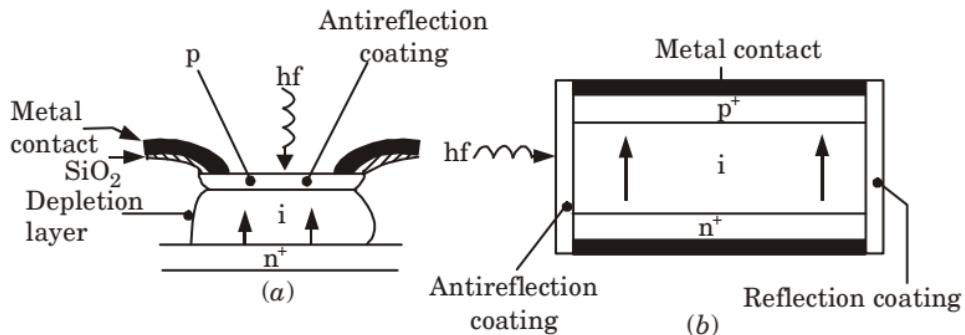

Fig. 4. (a) Structure of a front illuminated silicon *p-i-n* photodiode
3. Fig. 4 shows the structure of two types of silicon *p-i-n* photodiode for operation in the shorter wavelength band below 1.09 μm .